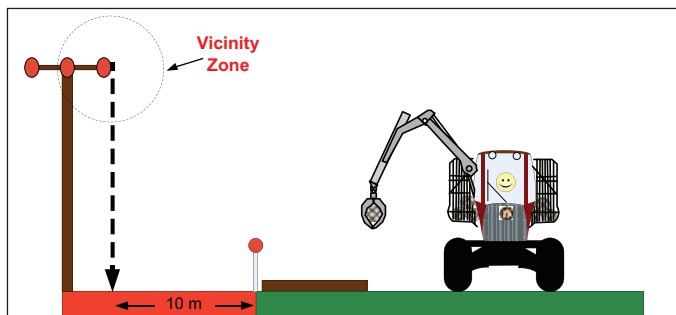

Figure 5: Timber layout and extraction
- Timber must be placed at least 10 m from the OHPL to enable safe extraction when the line is re-energised (*see figure 5*);
- 46 Do not operate a forwarder or skidder if any part of the machine or its load (product being lifted) is likely to come within 10 m of energised OHPLs. Where necessary, clearly mark the limit of work in relation to the energised OHPLs (*see Figure 5*). Use high-visibility tape or other markings.